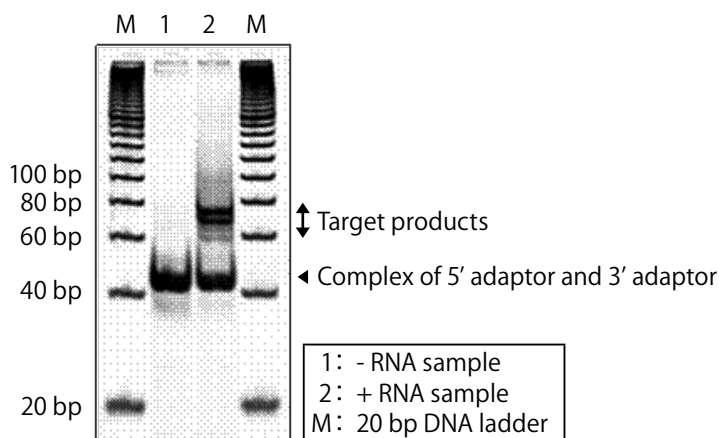

Figure 3. Result of reactions using 10 kinds of RNA samples (16 nt - 30 nt) (detected by the FMBIO II Multi-View).
- 7) Analyze 5 μ l of the reaction on a 10% non-denaturing polyacrylamide gel (See Figure 3).
If the amount of DNA applied to a well is large or electrophoresis is carried out rapidly, the DNA bands may smear at the well edges as seen in Figure 3. In this case, reduce the amount of DNA loaded in the well, or use a larger well. Alternatively, results may be improved by performing electrophoresis slowly. In addition, be careful not to include the lower band (complex of adaptors) in gel slice. When the edges of the band are smeared, we recommend omitting both ends when excising the gel slice and performing gel extraction.